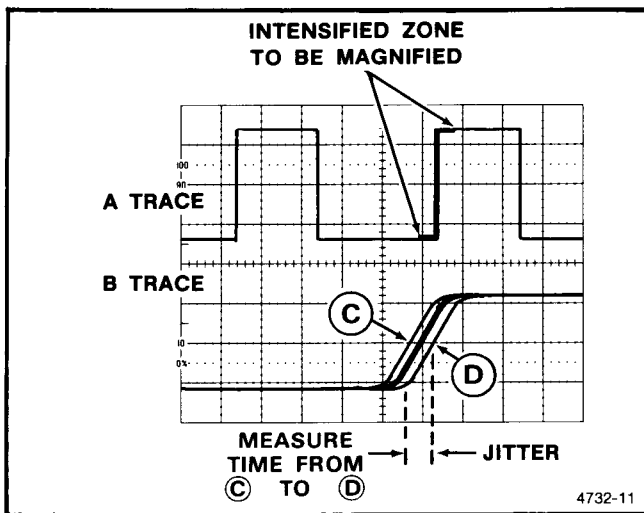

Figure 4-12. Pulse jitter.
2. Referring to Figure 4-12, measure the difference between Point C and Point D in divisions and calculate the pulse jitter time using the following formula: